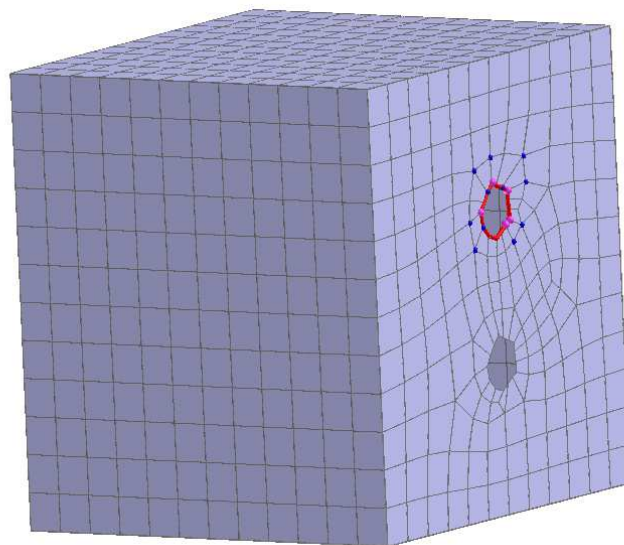

Figure 13: Pick nodes to create a seam.
- Pick the nodes until you see a circular seam following the edge of the hole as shown in Figure 13.